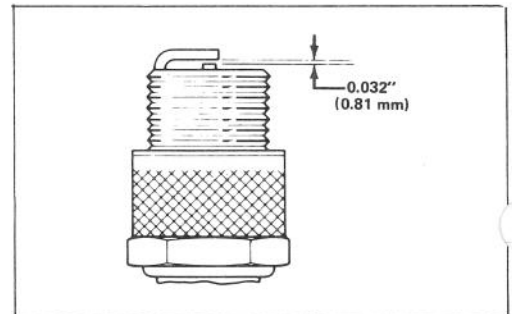

Figure 4
3. Set air gap (Fig. 4). Install correctly gapped spark plug and gasket seal. Tighten plug firmly to 10 ft-lb (13.6 N·m).